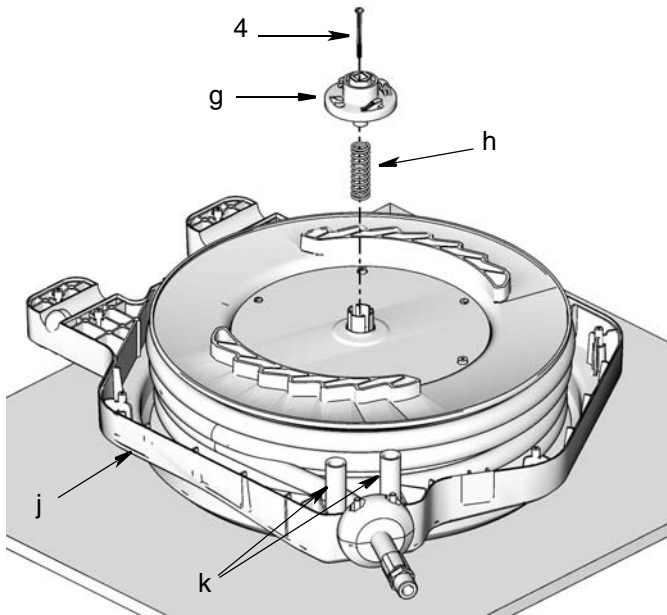

FIG. 22
either side of hose (FIG. 22).
5. Install spring (h), spring adjuster (g) and bolt (4) (FIG. 22). Hand tighten.